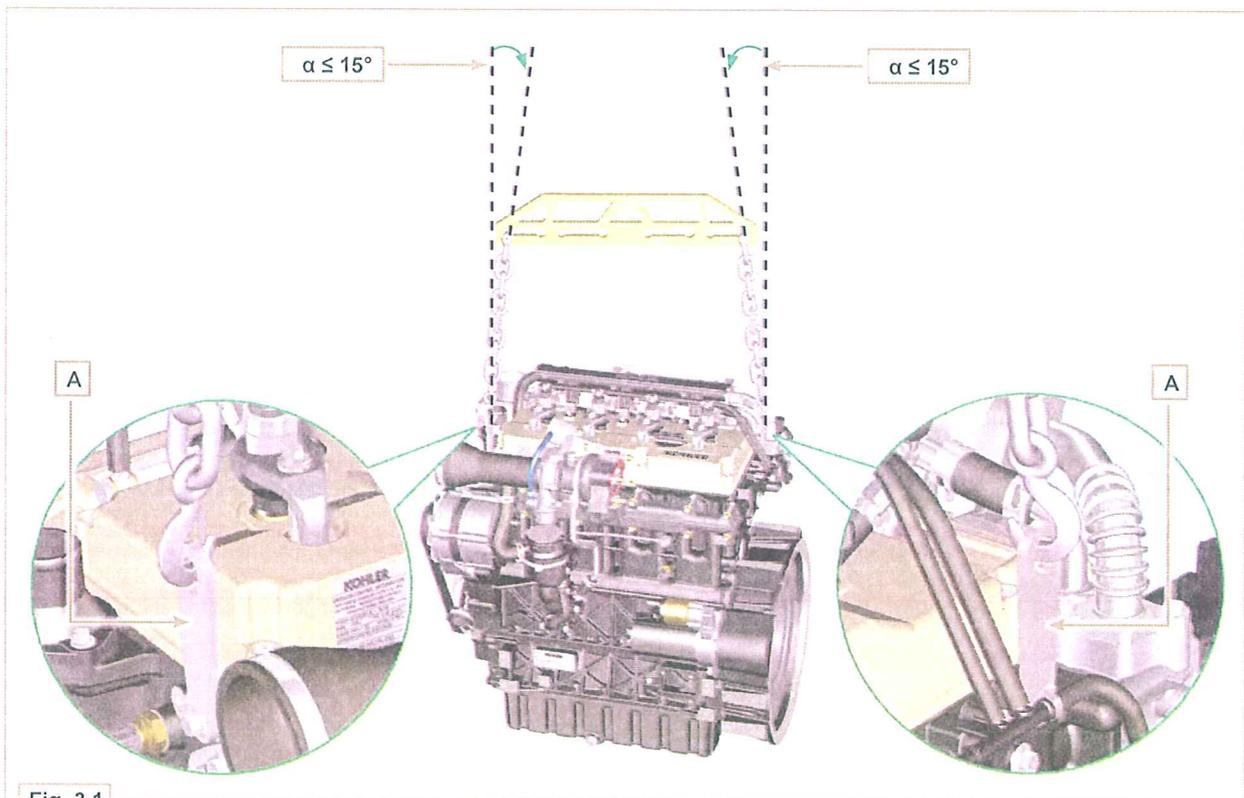

Fig. 3.1
- Only use the eyebolts A installed by KOHLER to move the engine (Fig. 3.1).